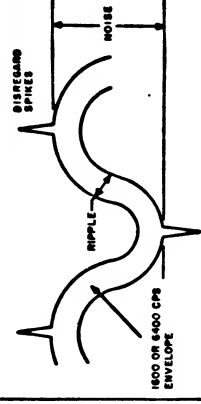

Figure 1. Typical Ripple and Noise Pattern
- Measure peak-to-peak ripple voltage on oscilloscope, as shown in figure 1, and record.
15. Measure peak-to-peak noise on oscilloscope, as shown in figure 1, and record.